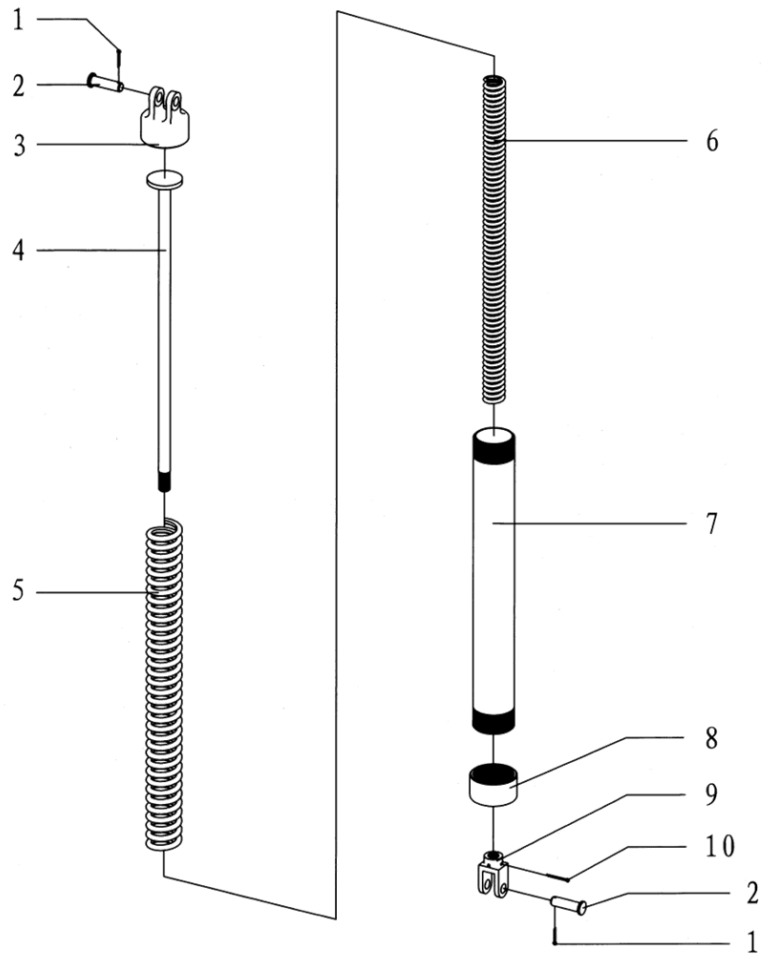

Fig 21
9.17 Spring lifting bucket(Fig.21,Table 17)